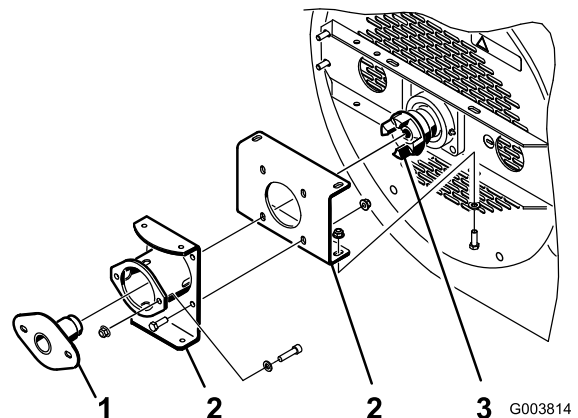
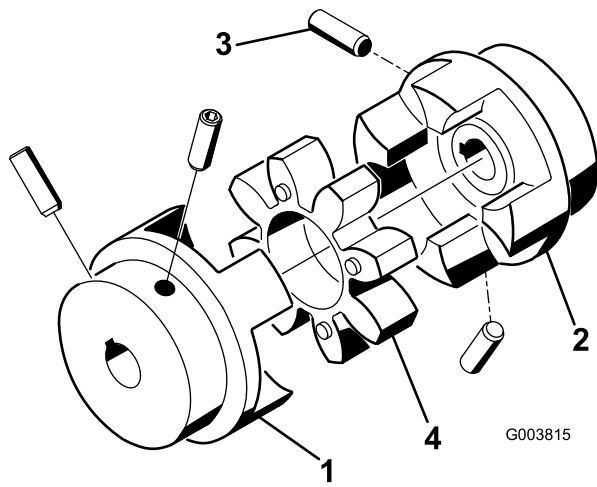

Figure 15
Figure 16
1. Make sure the mounting brackets are installed to the blower housing but capscrews and nuts are loose (Figure 15).
2. Insert the bearing alignment tool through the mounting brackets and into the fan coupler (Figure 15). Make sure the spider coupler (Figure 16) is not in the coupler.
- The set screws securing the motor and fan shaft couplers (Figure 16) must be torqued to 58 to 82 in-lb.